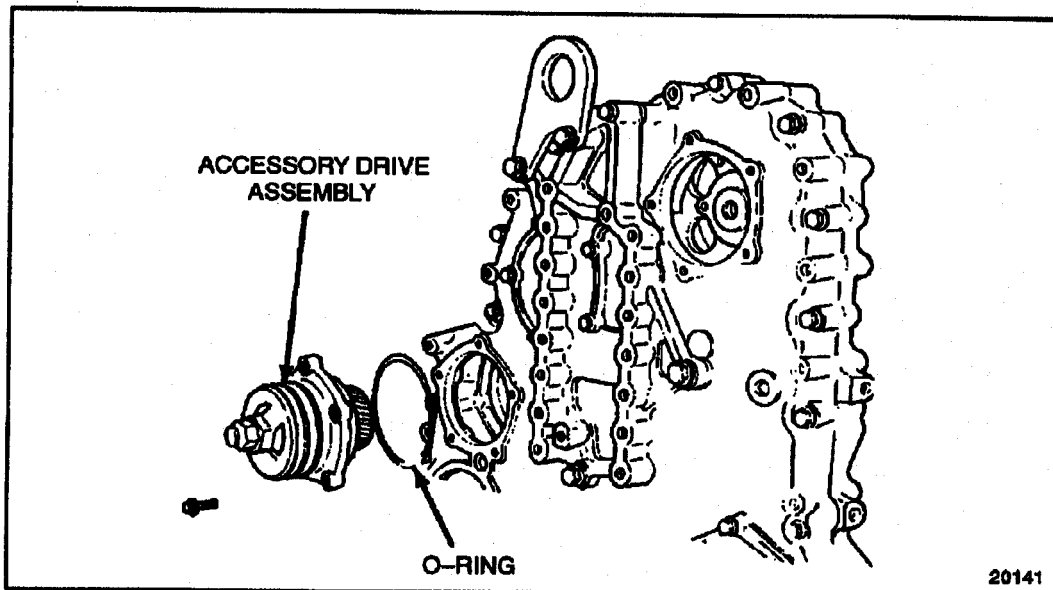

Figure 1-402 Accessory Drive Assembly Removal
3. Remove the accessory drive assembly by pulling it straight out of the gear case cover to avoid damaging the rubber O-ring. See Figure 1-402.